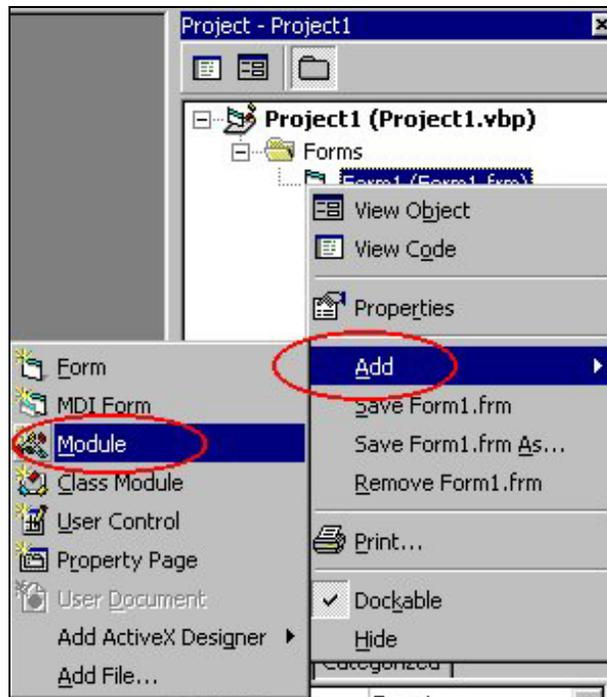

Figure 1-1-6. Add Module
5. Click the right mouse button in the Project manager window, and select “Add” then select ”Module” , Refer to Figure 1-1-6.